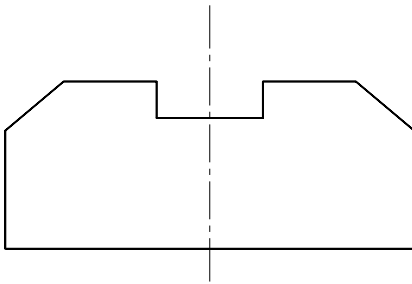

Figure 11-16 Outer loop with all constraint bars hidden
28. Choose the **Hide All** button from the **Parametric** tab of the **Ribbon** to hide all constraint bars. Figure 11-16 shows the sketch after hiding all constraint bars.